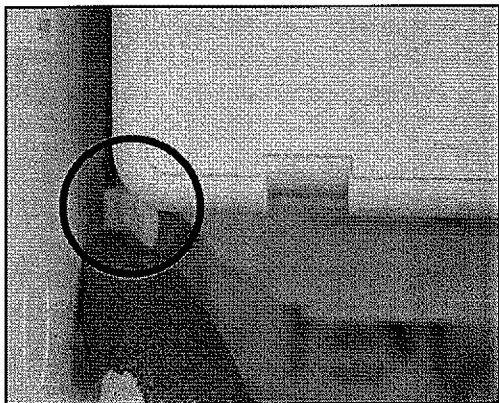

FIGURE 6
8. Release tab on left front of ice maker and slide ice maker module forward. See Figure 6.